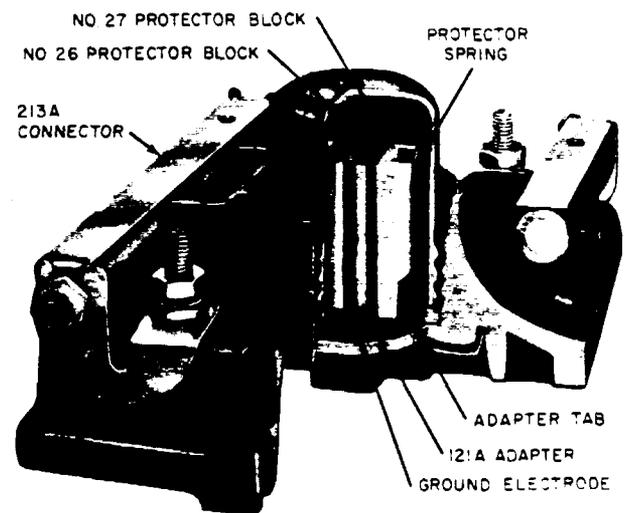

Figure 83—Converted 98A (DA) Protector
- (8) Reinstall cap.
- (9) Connect line wires, using care not to reverse tip and ring.
- (10) Loosen nuts on 11C fuses.
- (11) Insert 213A connectors over each fuse with end inside fuse clips. In cases where fuses have shrunk slightly, one or both connector ends may be placed outside of fuse clips. Some bowing of the connectors is not considered objectionable.
- (12) Tighten nuts on fuses (Figure 83).